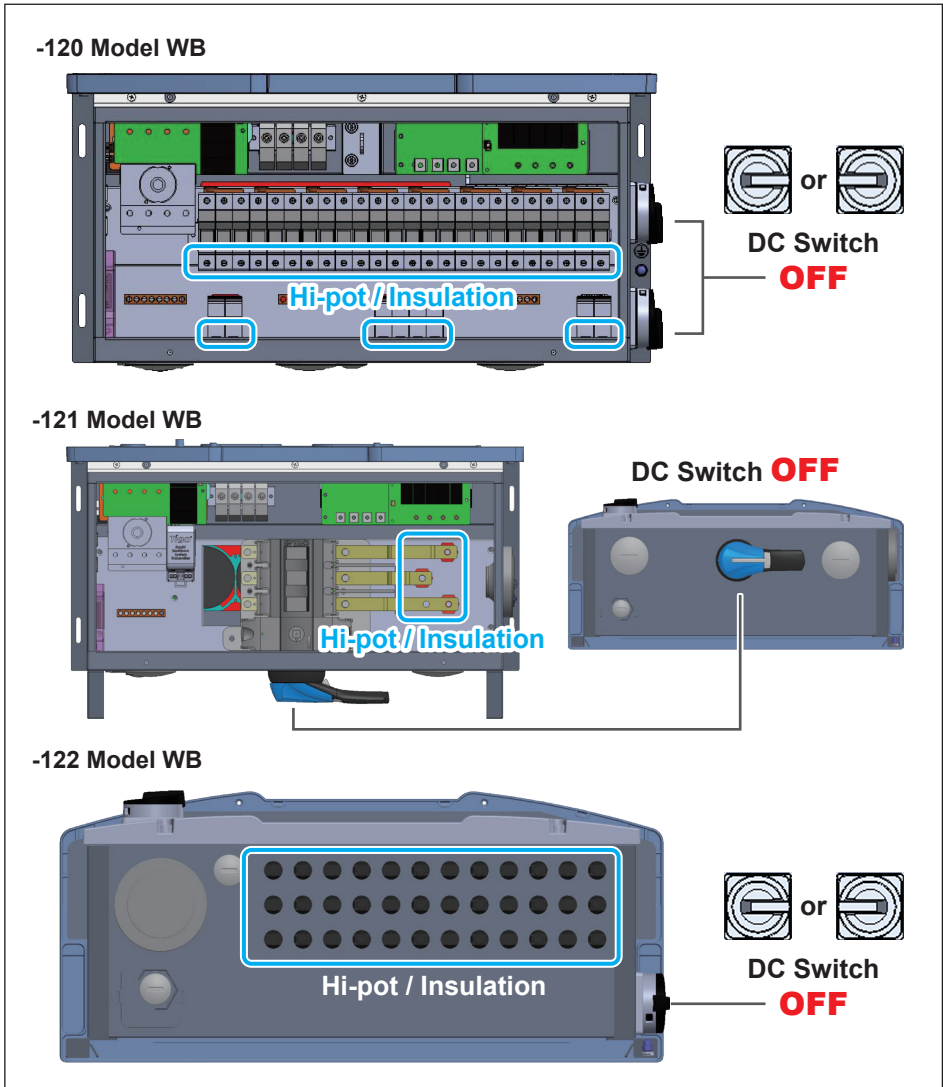

Figure 3-40: Precautions for on-site insulation test
2. Apply one probe to the positions shown in **Figure 3-40**, the other to the ground. It might cause damages to the inverter if probes are applied to inappropriate positions.